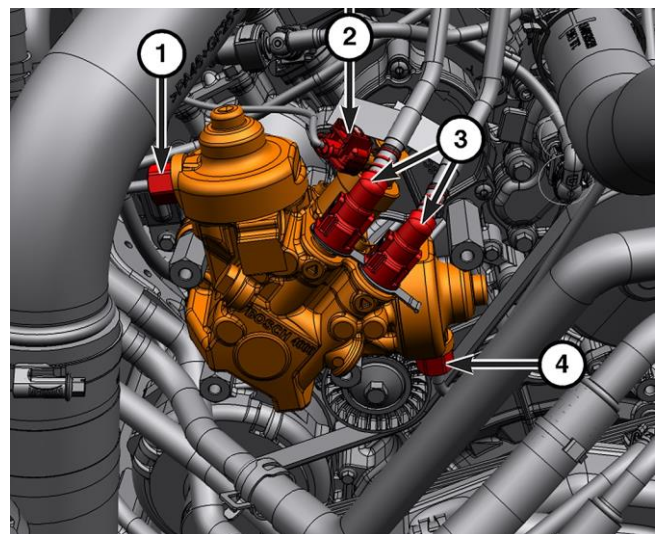

Figure 70 – HPFP Tubes and Lines
4. Remove the fuel rail supply tubes (1, 4) (Refer to 14 - Fuel System/Fuel Delivery/TUBE(S), Fuel/Removal and Installation) (Figure 70).
5. Disconnect the low-pressure fuel supply lines (3) (Figure 70).
6. Disconnect the fuel quantity solenoid wire harness connector (2) (Figure 70).
19. Connect the fuel injection pump electrical connector (2) (Figure 70).
20. Connect the low-pressure fuel supply and return lines (3) (Figure 70).